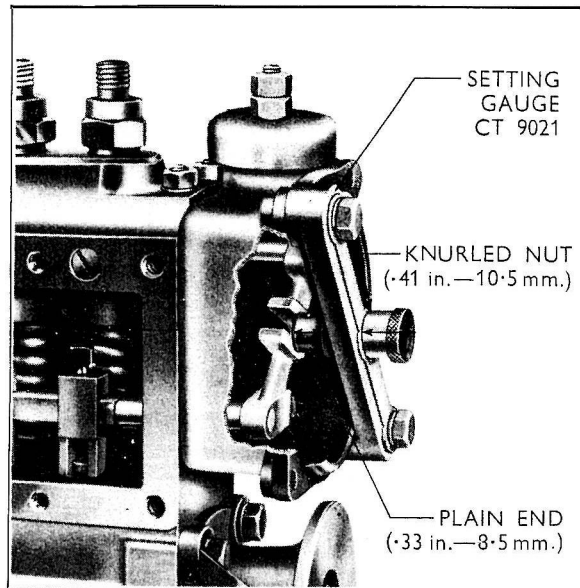

Fig. 24.
26. Slacken back the maximum fuel stop screw, and with the pump control rod setting gauge (Tool No. CT.9021) bolted in position across the inner governor housing, screw in the stop screw until the outer face of the governor link contacts the stop peg in the centre of the gauge (see Fig. 24).